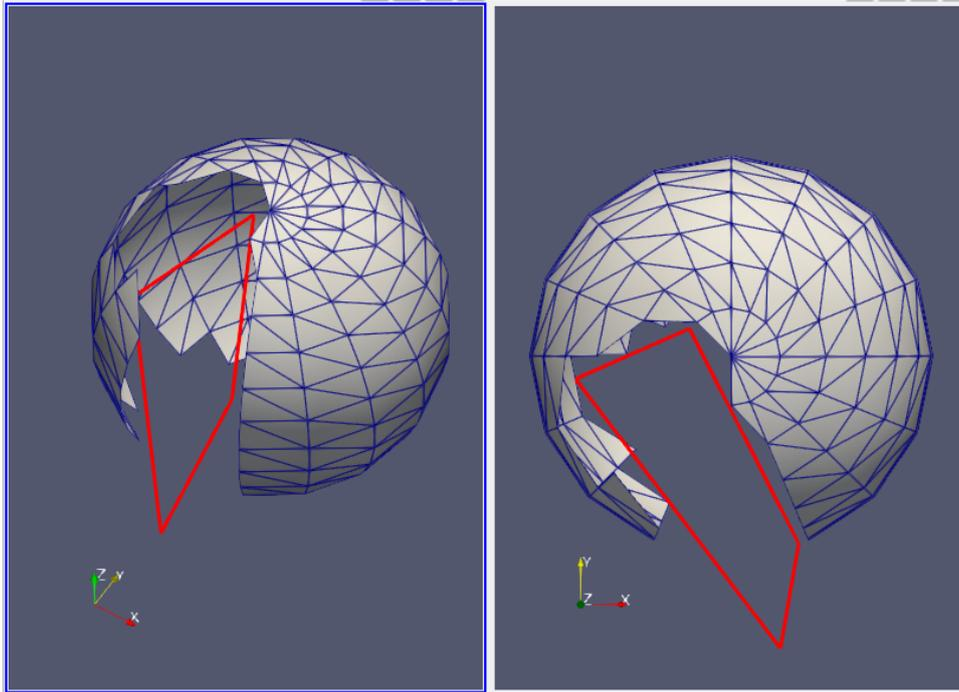

Fig. 2.48: Clipped the sphere with a boundary line results in a “cookie cutter” effect along the Z axis.
- Clipping the sphere without further options: Fig. 2.48.